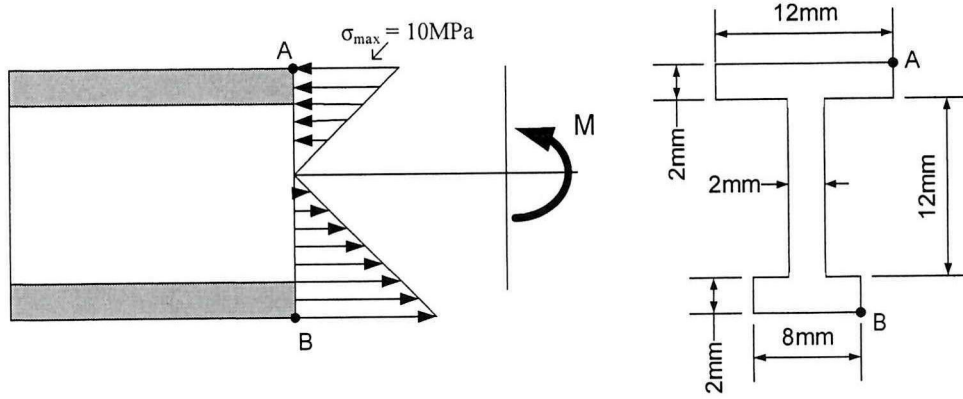

Figure Q3
- Q3** A stress distribution for a homogeneous beam of a given cross-sectional area is shown in **Figure Q3**. The beam is subjected to an internal moment M at the cross section. Determine: